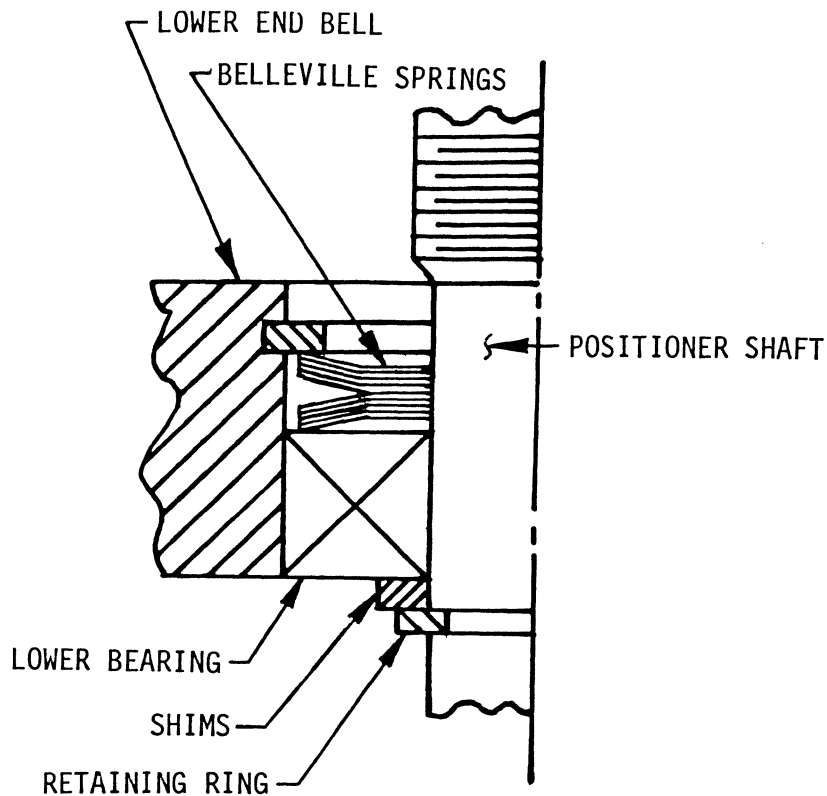

Figure 5-30
h) From lower end bell remove bearing and discard. NOTE: DO NOT USE BRG WHICH WAS REMOVED WITH END BELL. Make sure that Belleville springs do not fall out of lwr end bell when removing bearing. Belleville springs are to be stacked as shown in Fig. 5-30.